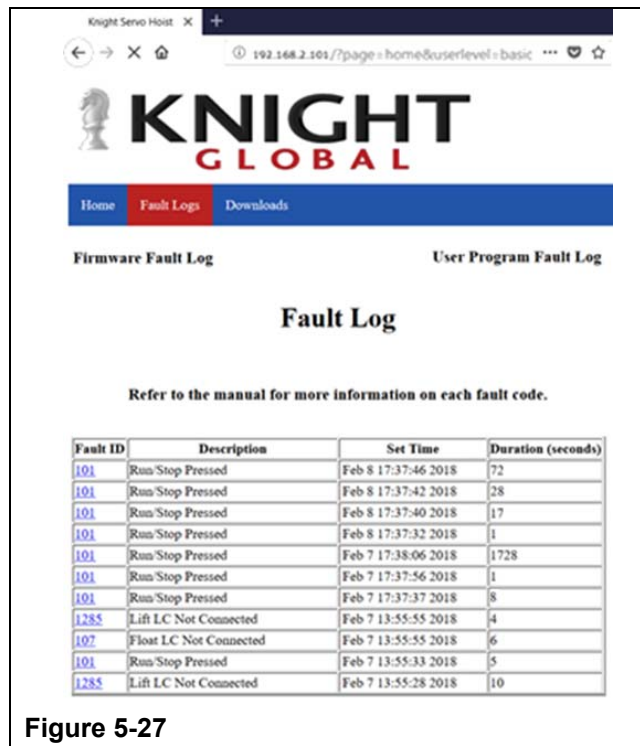

Figure 5-27
- Step 3. Select the 'Fault Logs' button to see a list of all of the faults recorded by the servo. Each fault will have a 'Fault ID', a 'Description', the time the fault occurred and the duration the fault lasted. (Refer to Figure 5-27)